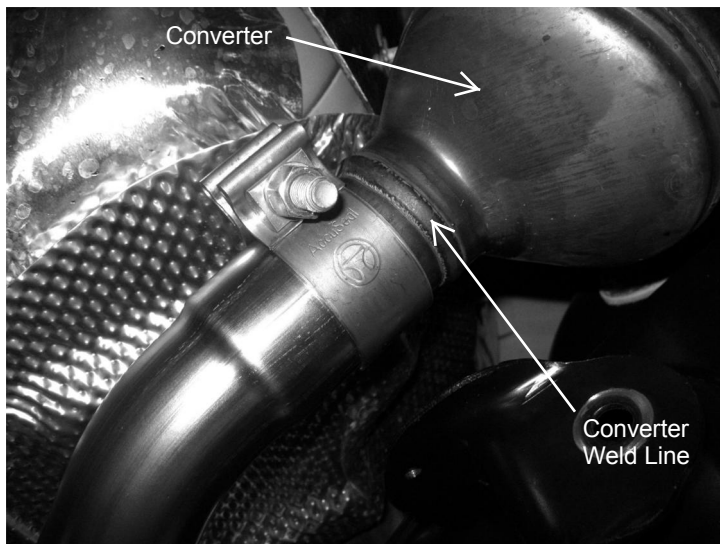

Fig. 1
Step 2: To Prepare the vehicle to accept the Delete Pipe Measure and mark the OEM Circular Pipe 3.00" behind the Converter Weld Line shown in Fig. 1.